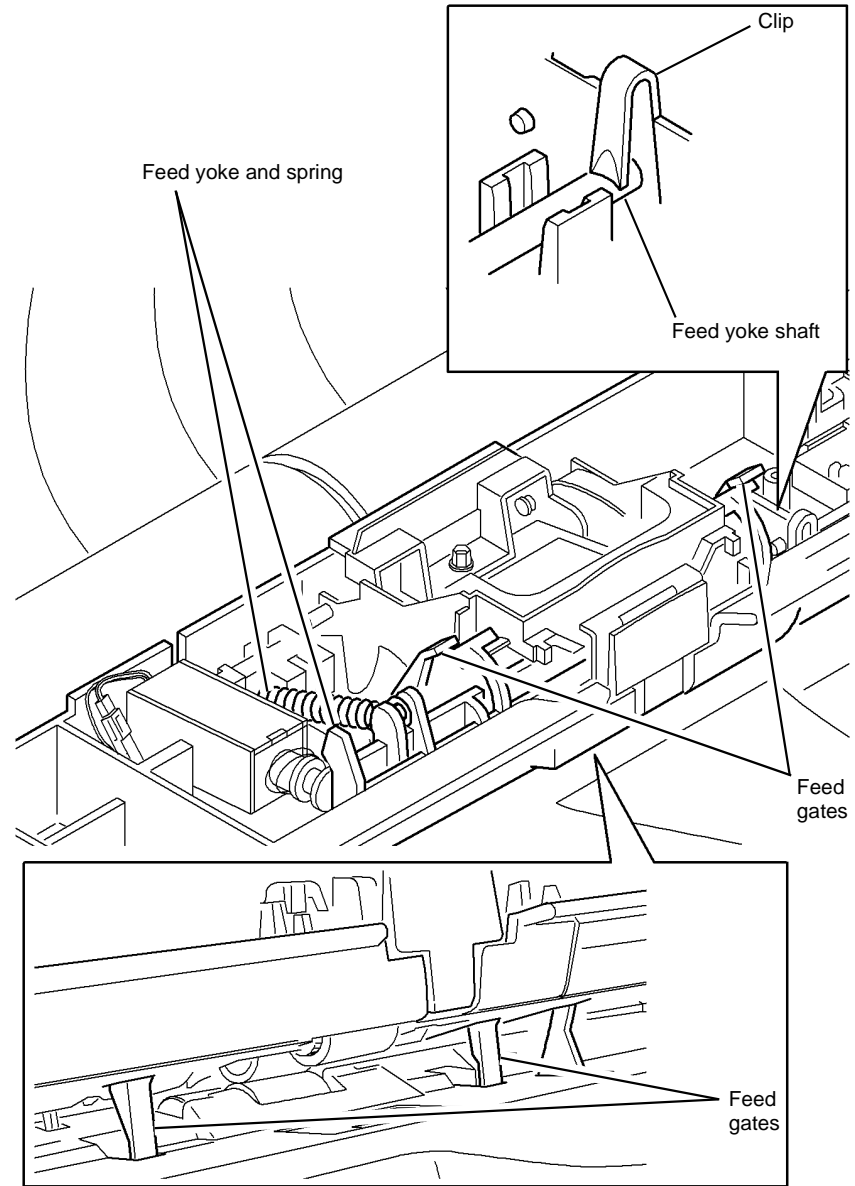

Figure 2 Component location
- **Figure 2**. Check the operation of the feed yoke. Make sure that the feed yoke shaft is under the clip. Make sure that the feed yoke spring is connected to the feed assembly and to the feed yoke.
- **Figure 2**. Check that the feed yoke actuates and locks the feed gates in the down position. If necessary install a new feed yoke, **PL 5.17 Item 6**.